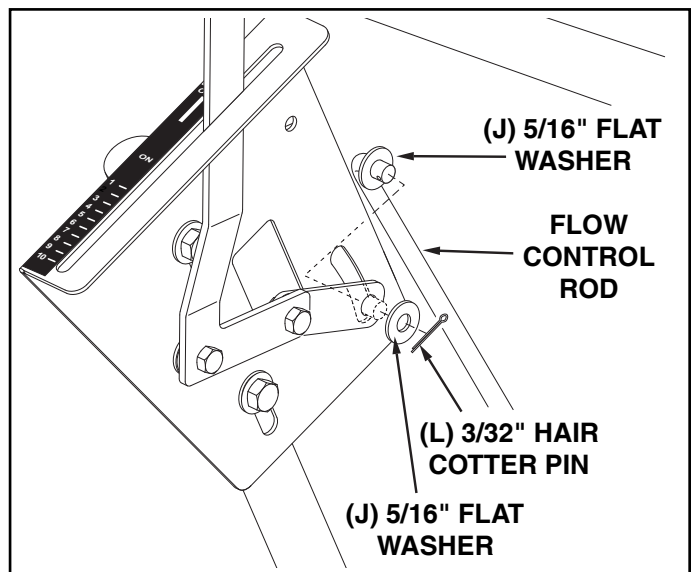

FIGURE 11
21. Place a 5/16" flat washer (J) onto the other end of the flow control rod. Insert the end of the rod through the curved slot in the flow control mounting bracket and through the hole in the flow control link. Secure with a 5/16" flat washer (J) and a 3/32" x 3/4" cotter pin (L). See figure 11.